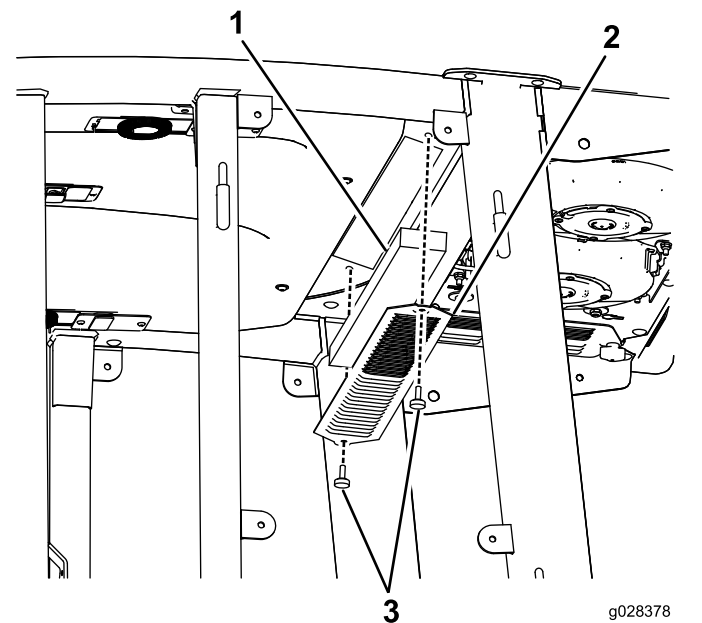

Figure 137
3. Remove the cabin roof of the cab by removing the 22 bolts that secure the roof (Figure 137).
4. Remove the air filters (Figure 137).
5. Remove and clean the air-conditioning coils (Figure 137).